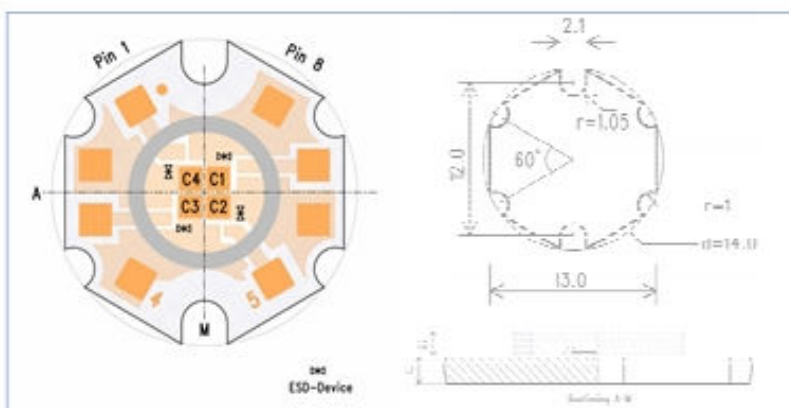
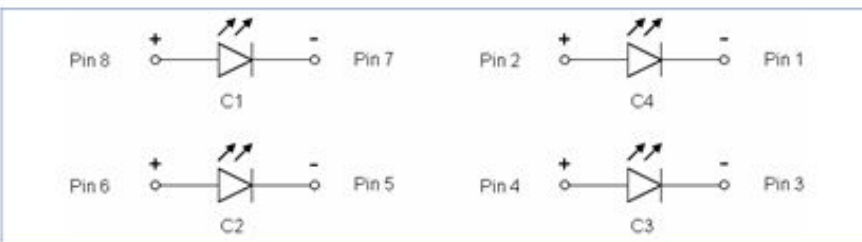
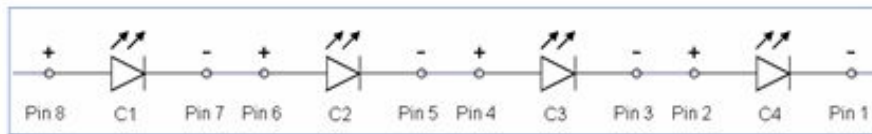

Figure 1
Figure 4
Figure 5
Figure 1 shows the typical layout of the ACULED VHL. The chips are placed in the middle of the board, protected by a PPA-based ring and silicone resin encapsulation. The latter is transparent and suitable for a wide range of radiation from ultraviolet (UV) to infrared (IR). It is also more resistant to heat than epoxy resin, and its heat expansion characteristics are closer to those of chips. With the ACULED's high-power LEDs, silicone achieves superior resistance to light radiation, mitigating degradation, and maintaining LED color purity over the LED's lifetime. The mechanical stress applied to the chips is lowest with silicone, as compared to standard encapsulation materials. Due to its softness, pressure to the silicone area within the ring must be avoided. Please refer to the application note "Handling of LED and Sensor Products Encapsulated by Silicone Resin" to learn more about handling silicone-based products such as the ACULED.
The electrical circuit of a specific ACULED VHL can be found in the specific datasheet. Figure 1 shows the layout with the chip pads called C_n and the eight electrical connections labelled Pin n . The assignment from the chip pads to the pins can be found in the ACULED datasheet for the ACULED VHL and in table 1 for the ACULED DYO. Figure 4 is showing an example that represents most of the visible ACULED VHLs. Please note that your specific ACULED VHL or DYO product can be different from this example, please refer to the datasheet. It is a big benefit of the ACULED VHL design that each LED chip can be driven individually, even if a chip type is used twice or more. This gives you the opportunity to drive the ACULED according to your needs, for example with one of the different four channel drivers provided by Excelitas. Please refer to the chapter later in this application note and to the driver datasheets for more information. If you want to connect the four chips serially, for example with a monochromatic ACULED VHL, you only have to connect neighboured pins as shown in figure 5. To learn more about mounting and soldering of the ACULED please refer to the application note "Mounting of the ACULED".
Remember that LED chips are driven and thus controlled by the current flow. Driving chips serially as shown in figure 5 leads to the same current I_F in each chip and therefore to a homogeneity in brightness and color. Small differences between the chips are represented in the different forward voltages of the chips. The overall voltage needed to drive a number of chips serially at a given current I_F can easily be calculated by the following equation: